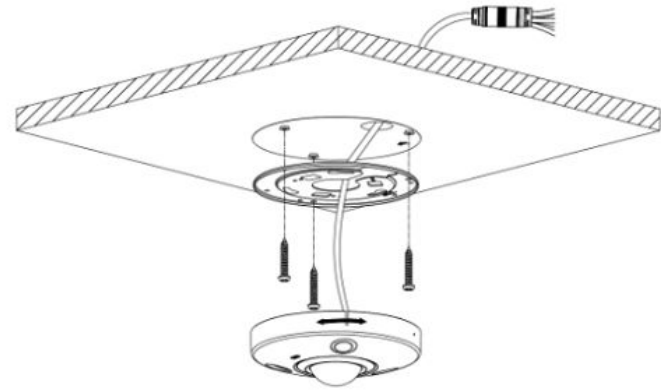

Figure 2-3
Step 3 Adjust the camera mounting plate, and pull the cable through the exit hole. Match the "TOP" direction of the camera with that from the installation template. Align the 3 mounting plate holes with the plastic anchors from Step 2. Install the ST3.0 screws through the mounting plate holes, and into the plastic anchors. See Figure 2-3.